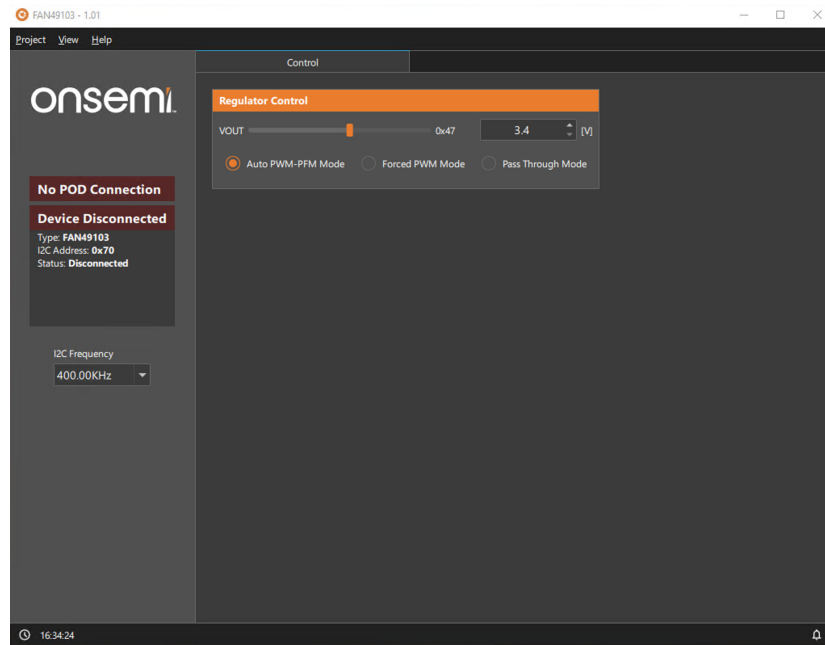

Figure 8. No POD Connection
- c. If POD is disconnected, it will show No POD Connection as shown in Figure 8.